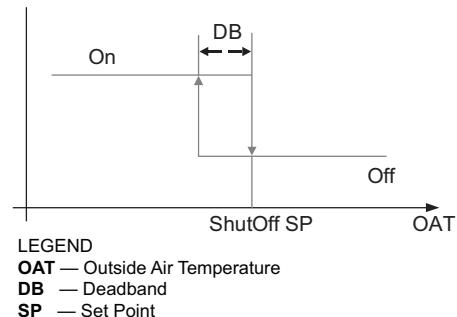

Fig. 79 — Hysteresis Settings
Hysteresis setting (DB) defaults to 2°F (-16.6°C). See Fig. 79.